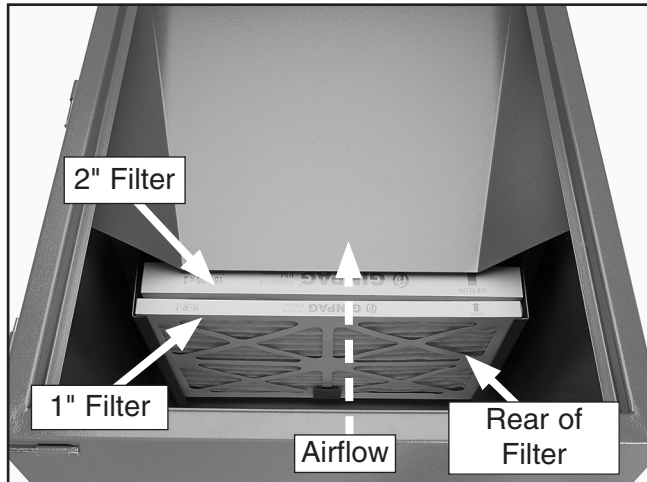

Figure 5. Filters installed in filter bay (one side shown).
1. Install the 2" thick filters in the filter bay on both sides of the downdraft table cabinet as shown in **Figure 5**, then install the 1" thick filters in front of them.